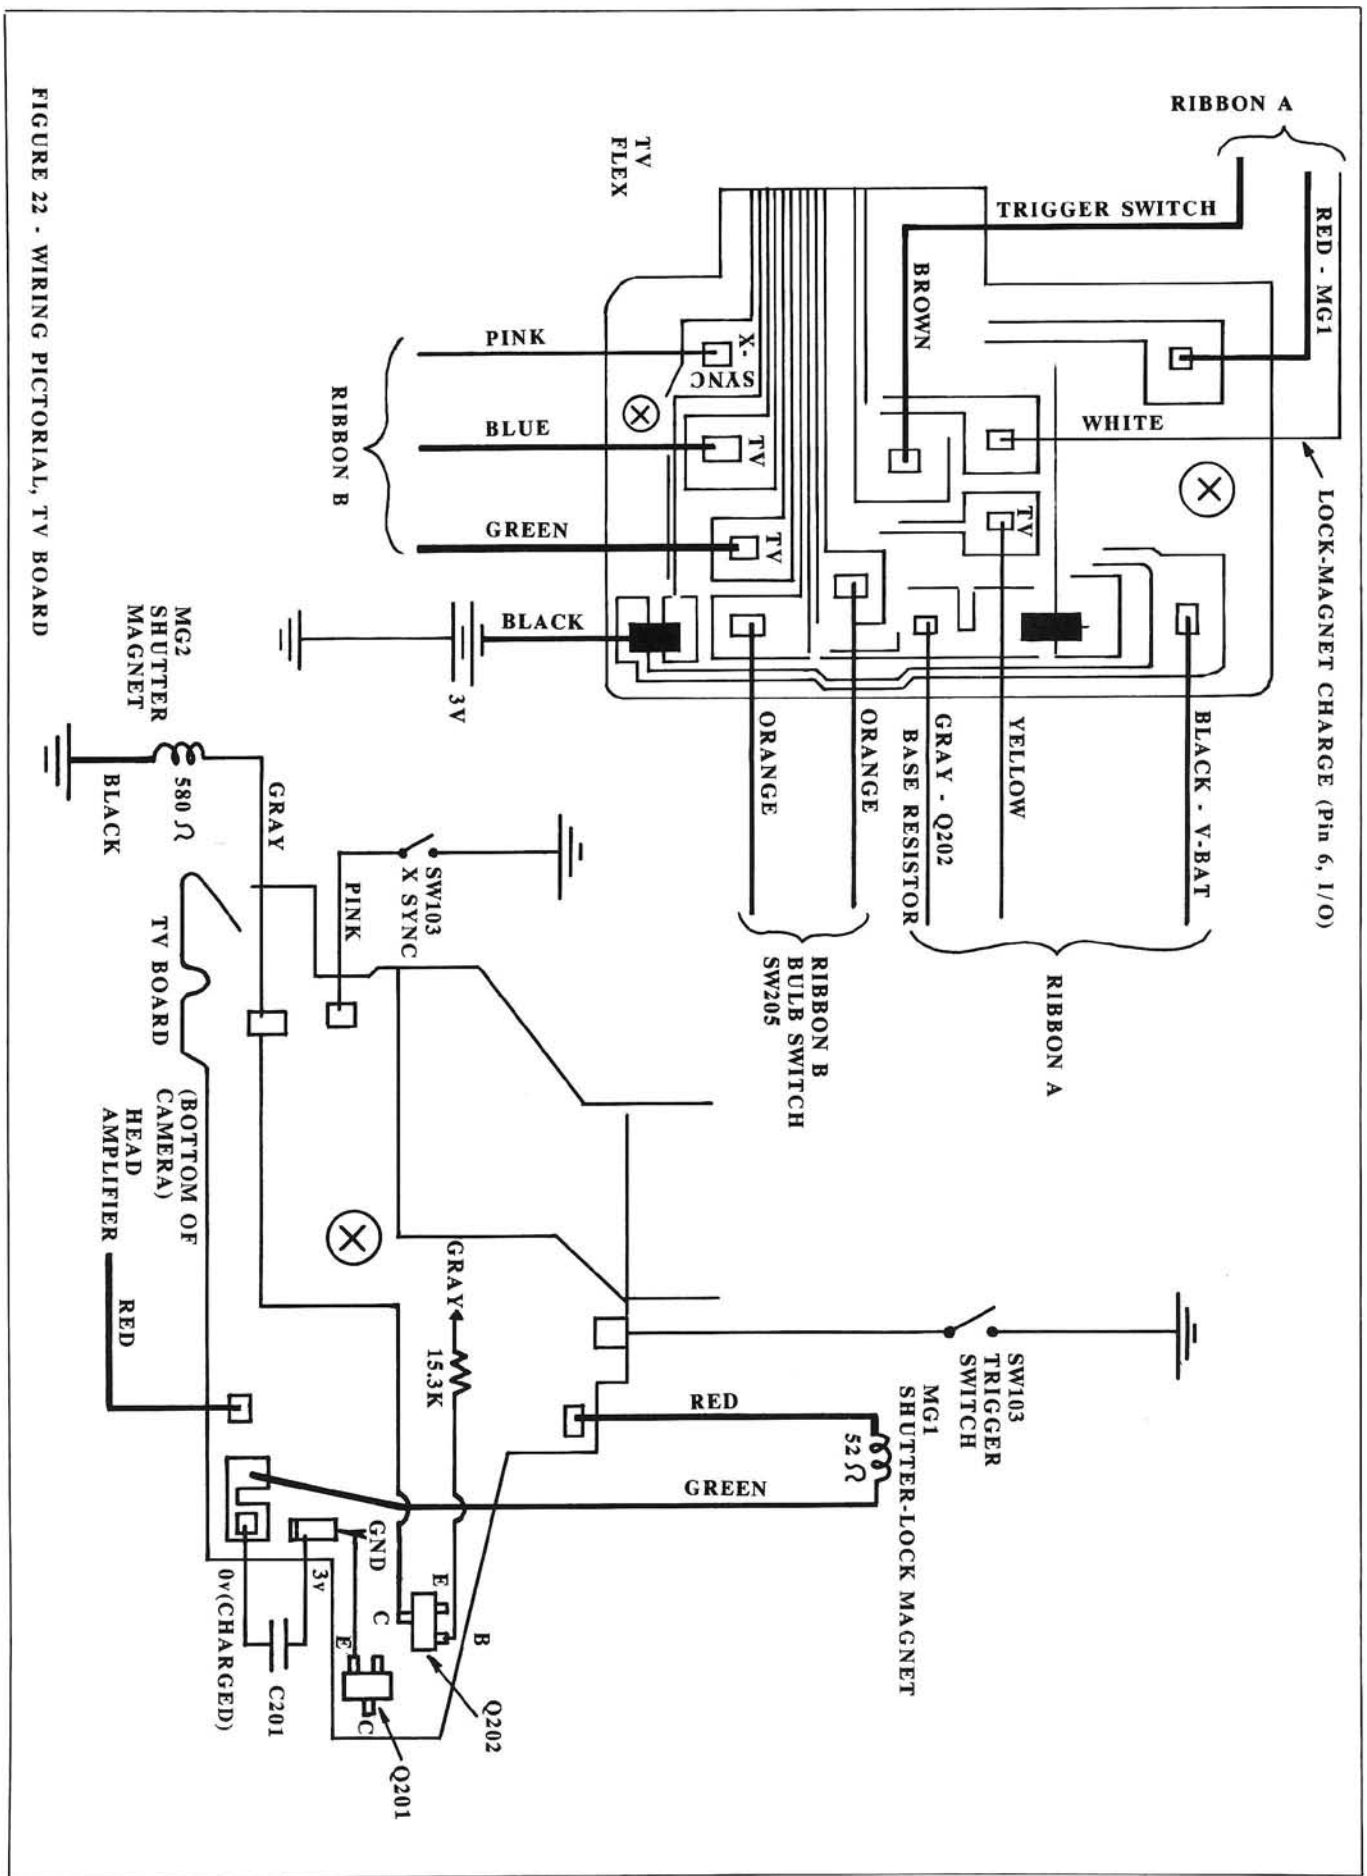

FIGURE 22 - WIRING PICTORIAL, TV BOARD
15. unsolder red wire from TV board, Fig. 22
Note: If you're replacing the TV board, unsolder all the wires from the TV flex, Fig. 22. If you're just removing the TV board to reach the shutter block, it's only necessary to unsolder the black negative-battery wire.
2. unsolder trigger-switch lead from TV board, Fig. 22